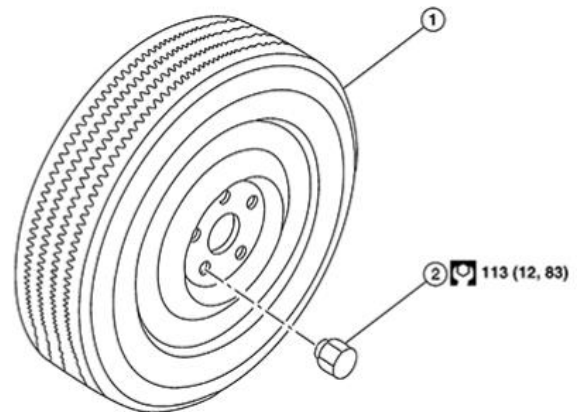

Figure 8
9. Reinstall both front-wheel and tire assemblies. (Figure 8)
- Install (10) wheel nuts.